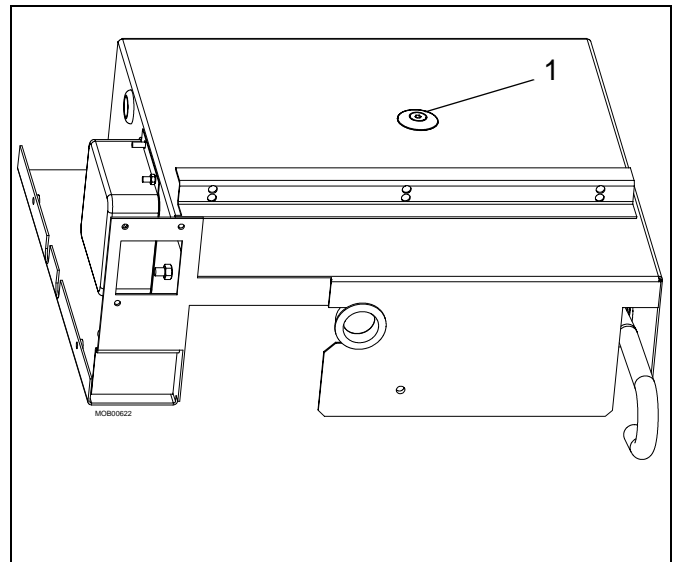

Fig. 7
- Remove securing screw (pos. 1 / Fig. 7).
- Reinstall the securing screw (pos. 1 / Fig. 7).